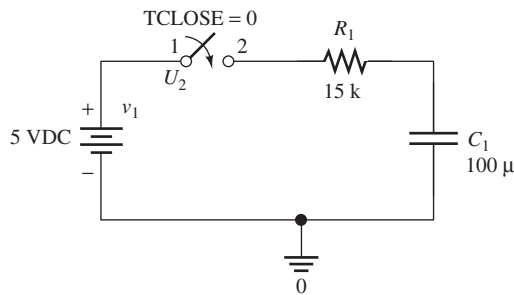

FIGURE 5.48 PSpice solution for Example 5.19.
- A PSpice schematic solution can be set up as shown in Figure 5.48. Set the initial condition for the capacitor to 0 V (Example 16 shows how to set up initial conditions).